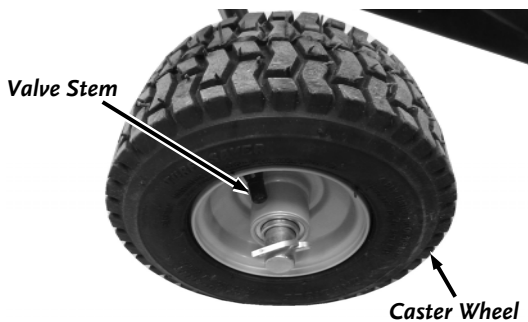

Figure 32
1. Remove the Valve Stem Protective Cap (**Figure 32 and 33**) and check the tire pressure with a Tire Pressure Gauge.